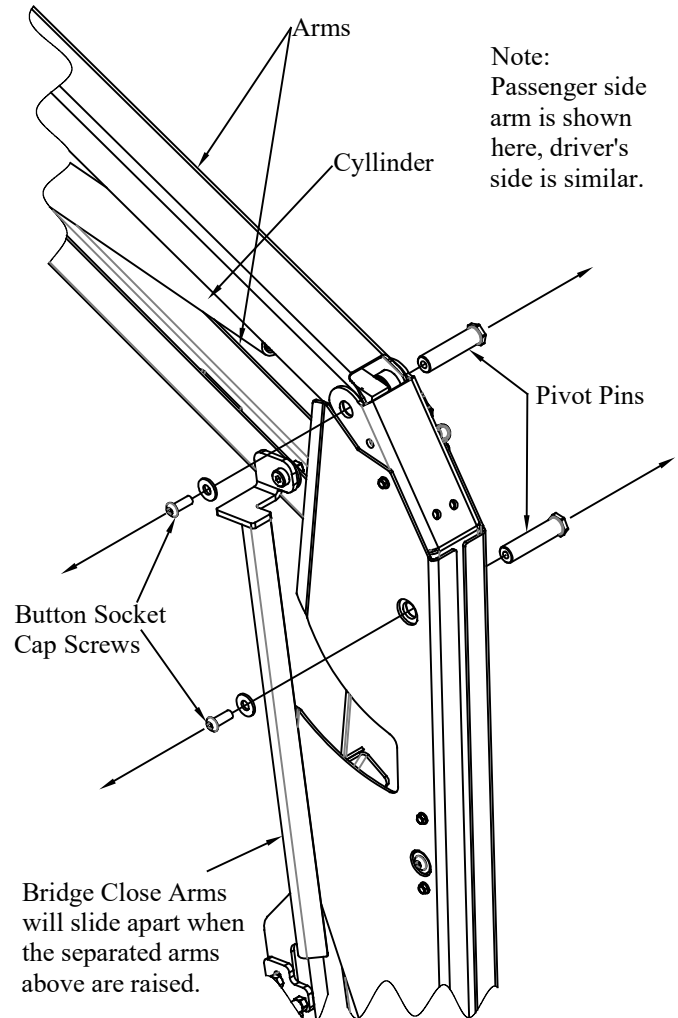

Figure 3: Removing the pivot pins.
1. **Remove** the four button socket cap screws from each of the pivot pins. (Figure 3)
5. **Repeat** steps 3 and 4 to remove each of the top two joints on both arms as marked in figure 3.